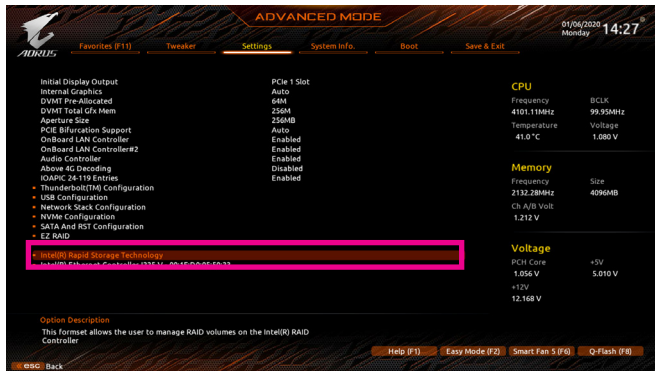

Figure 7
After the system reboot, enter BIOS Setup again. Then enter the **Settings**\IO Ports\Intel(R) Rapid Storage Technology sub-menu (Figure 7).